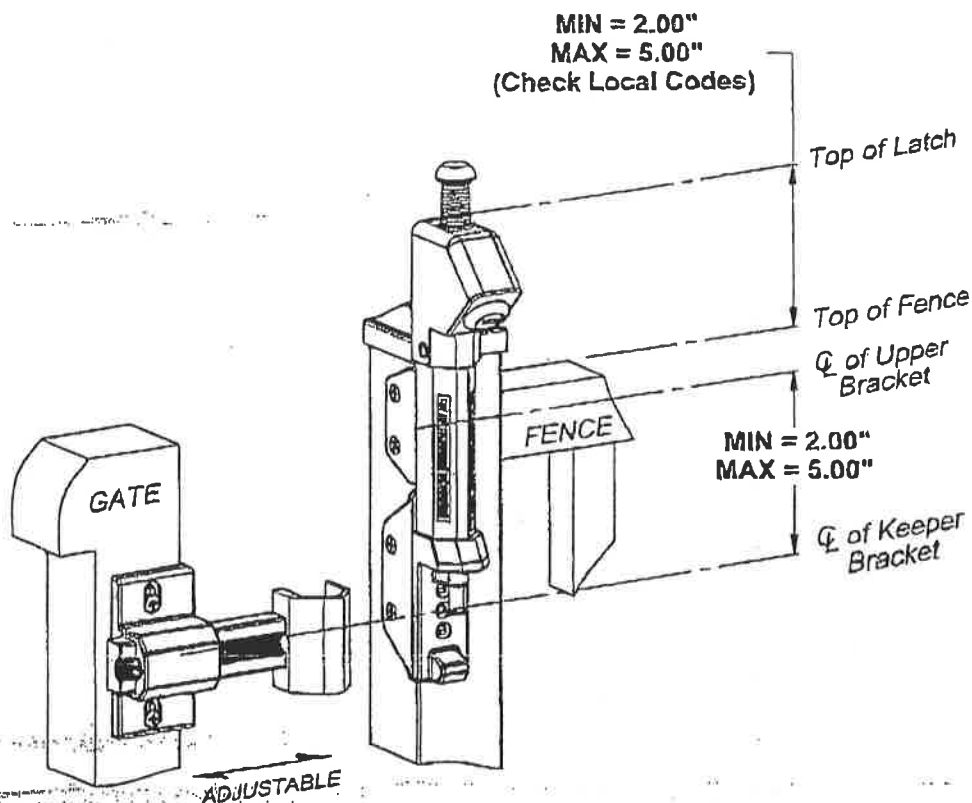

FIGURE 1
1.) Align the rear groove in the Main Latch Body with the tab in the Upper Bracket and slide the latch into position. Using a measuring device, locate the top of the latch at the proper height (Fig 1). **"REFER TO ALL LOCAL BUILDING CODES"**